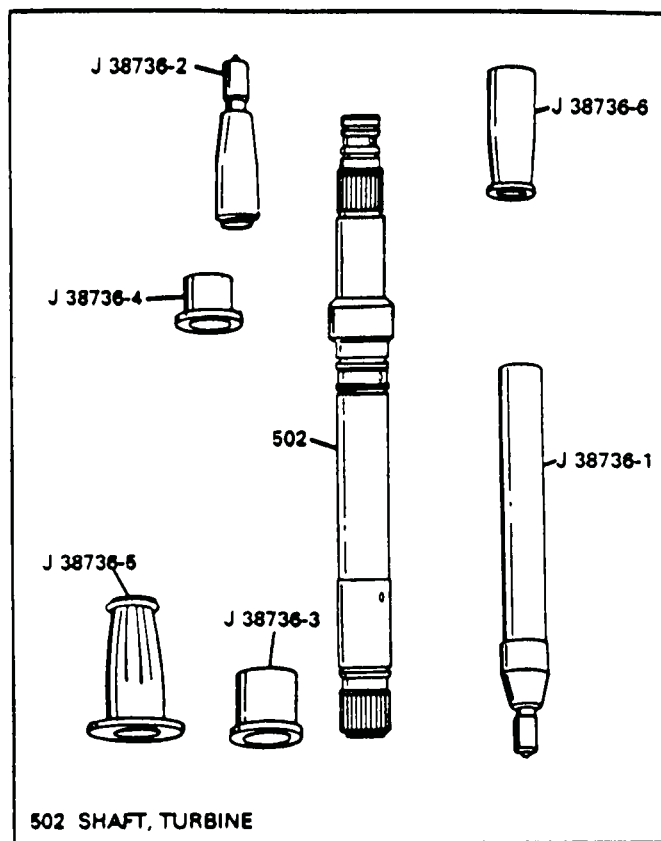

Figure 100
1. Place solid seal installer J-38736-2 onto small end of turbine shaft, as shown in Figure 100.
2. Push the solid seals over and down the installer until they are in place using pusher tool J-38736-6 (See Figure 100).
4. Place the sizer J-38736-4 over turbine shaft to size the solid seals in place. (See Figure 100).
6. Repeat the above procedure with the different size set of tools that are shown in Figure 100, for the seals on the large end of the shaft.
7. Install the overdrive roller clutch (512) onto the inner cam in the overrun clutch housing.